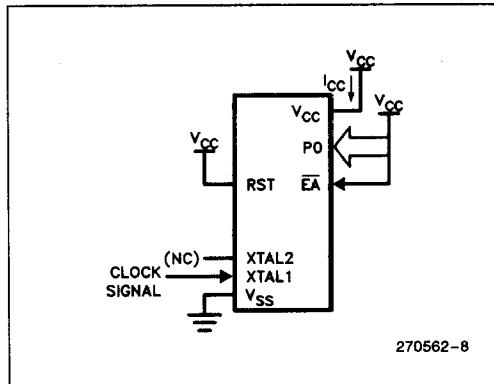

Figure 7. I_{CC} Test Condition, Active Mode. All other pins are disconnected.
- See Figures 7 through 10 for I_{CC} test conditions. Minimum V_{CC} for Power Down mode is 2.0V .